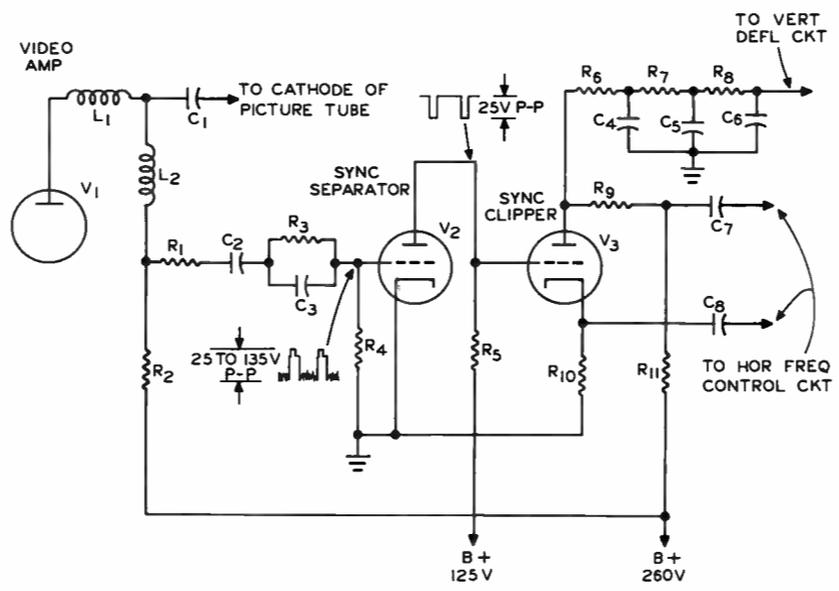

FIGURE 2
2. In the circuit of Figure 2, the  $V_3$  stage is operated as a .....
2. In the circuit of Figure 2, the  $V_3$  stage is operated as a **sync phase inverter**.
In the circuit of Figure 2, resistor  $R_1$  (A) allows only negative going sync pulses to be applied to the grid of  $V_2$ . (B) prevents shunting the  $V_1$  plate circuit with the input capacitance of  $V_2$ . (C) limits the plate current of  $V_1$  between pulses. (D) prevents the sync pulses from being applied to the cathode of the picture tube.